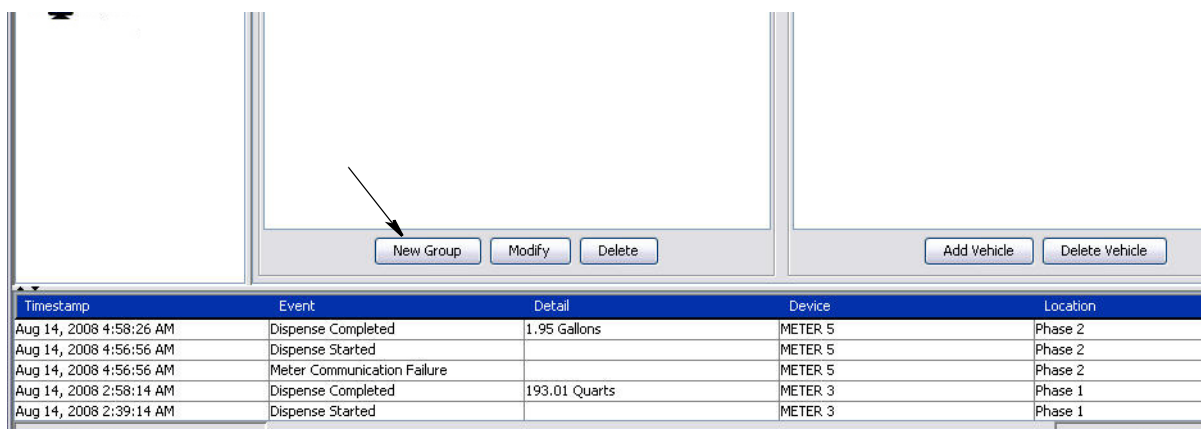

FIG. 151
2. To create a new Vehicle Group, click the New Group button (FIG. 151).